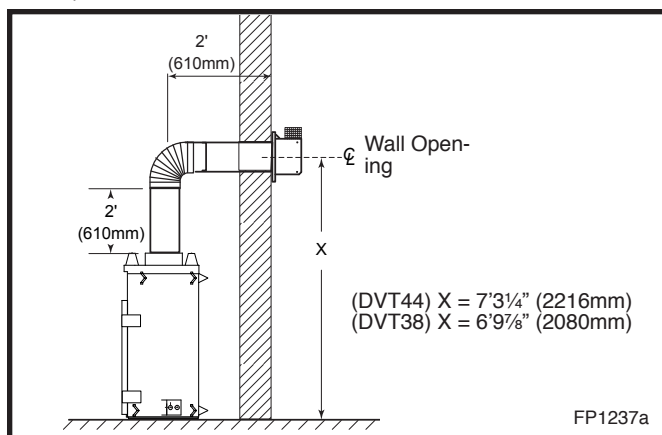

Fig. 18 Minimum vertical run / maximum horizontal run.
- A minimum of 2' (610mm) vertical section off the top of the unit is required, an elbow and a 1' (305mm) maximum horizontal run to get through a wall. (Fig. 18)